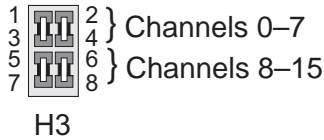
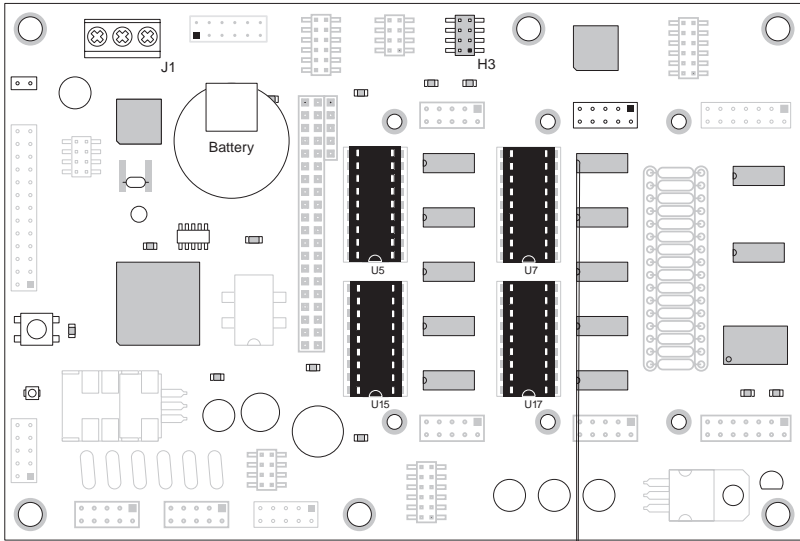

Figure D-4. Sourcing Driver Jumper Configurations
Figure D-5. U5, U7, U15 and U17 Locations of Sinking Drivers
Figure D-4 shows the jumper configurations for a sourcing driver output.
Figure D-5 shows the location of the drivers and headers with jumpers to be changed.
3. Install the jumpers on header H3 for the sourcing configuration, as shown in Figure D-4. Note the location of pin number 1 in Figure D-5.